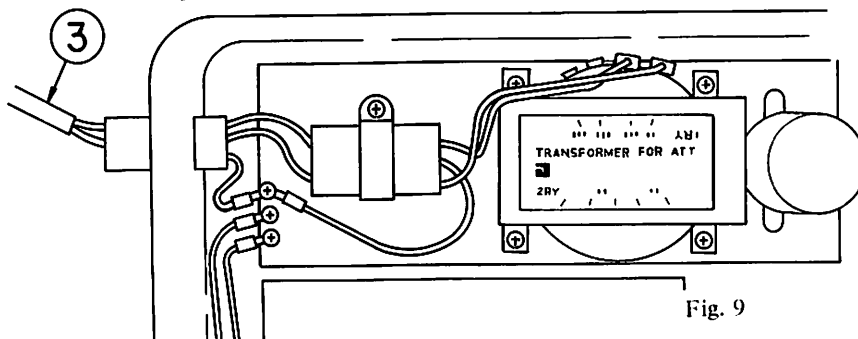

Fig. 9
a) In case of Hitachi and National motors (Fig.9)
C. How to connect the cord ⑥ from the motor lever